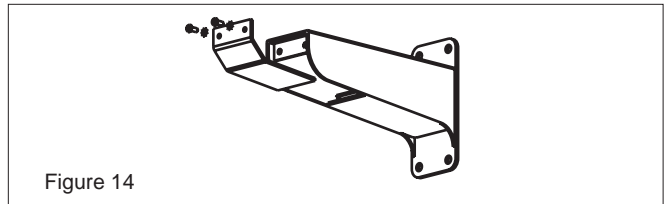

Figure 14
1. Remove the access cover by loosening the (2) security screws at the front of the housing with the security tool provided (Figure 14).